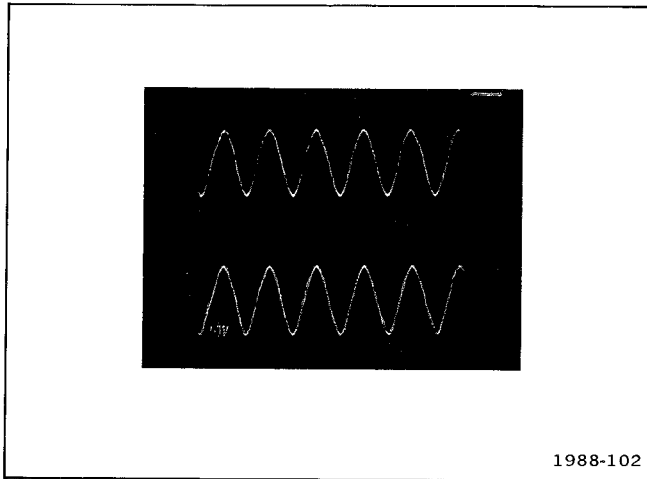

Figure 5-5. Typical waveforms on C16 and C17 with the line voltage set to about 20 V.
5. Check for an ac waveform on the test oscilloscope (see Figure 5-5). Note the amount of dc offset in the waveform. Move the probe tip to the other capacitor screw. Check for an ac waveform which is both dc offset an equal amount and is opposite in polarity from the previous waveform. (This checks the condition of the line storage capacitors.)